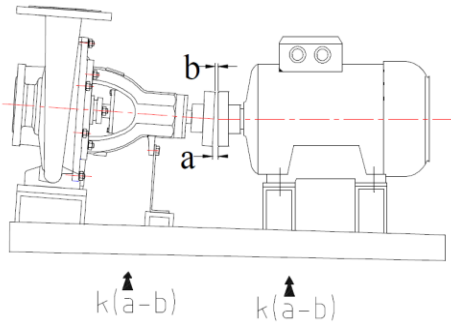
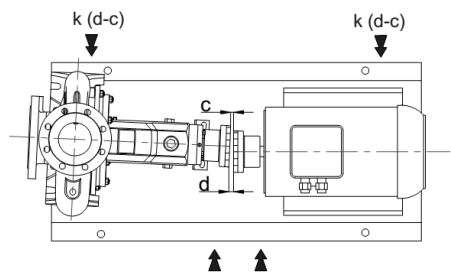

Figure 6: Angular Misalignment in Vertical Plane and Its Correction
Figure 8: Angular Misalignment in Horizontal Plane and Its Correction
**2.Angular Misalignment (Figure 6-Figure 8)**